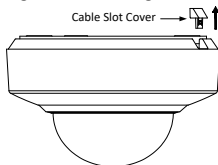

Figure 2-20 For DE2xxx Series PTZ Camera
3. Drill a cable hole in the ceiling according to the circle A on the template if you want to route the cables through the ceiling. Pull out the cable slot cover if you want to route the cables on the surface of the ceiling, as shown in Figure 2-20.